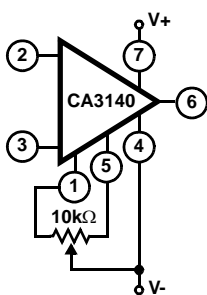
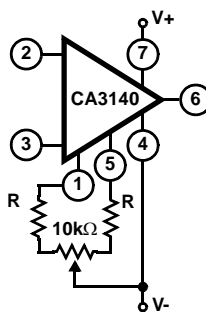

FIGURE 3A. BASIC
FIGURE 3B. IMPROVED RESOLUTION
The input offset voltage can be nulled by connecting a 10k Ω potentiometer between Terminals 1 and 5 and returning its wiper arm to terminal 4, see Figure 3A. This technique, however, gives more adjustment range than required and therefore, a considerable portion of the potentiometer rotation is not fully utilized. Typical values of series resistors (R) that may be placed at either end of the potentiometer, see Figure 3B, to optimize its utilization range are given in the Electrical Specifications table.